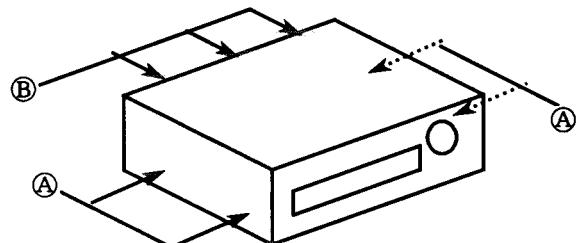

FIG.1
1. Remove 4 screws Ⓐ on both sides of the top cover and 3 screws Ⓑ on the rear side.(FIG.1)